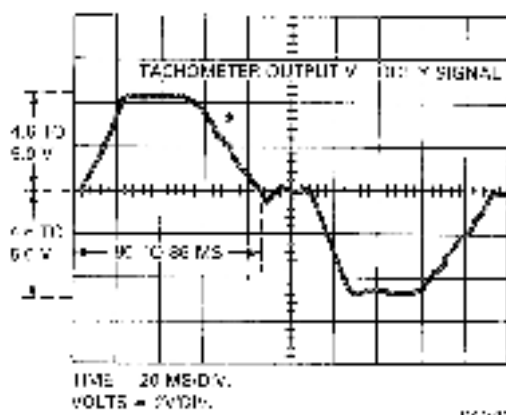

Figure 9-10 Tachometer Output Velocity Signal
11. Observe the trailing edge of the waveform (as indicated by an asterisk in Figure 9-10). There should be a slight "stepping" curve. If the observed slope has spikes in it, the positioner needs replacing as it is not rolling smoothly.